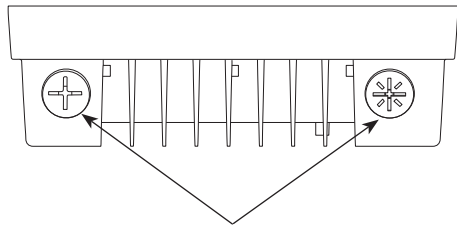

Fig: 5
1. Remove **Selector Switch Caps** by turning counter clockwise using a flat head screwdriver **Fig. 5**.